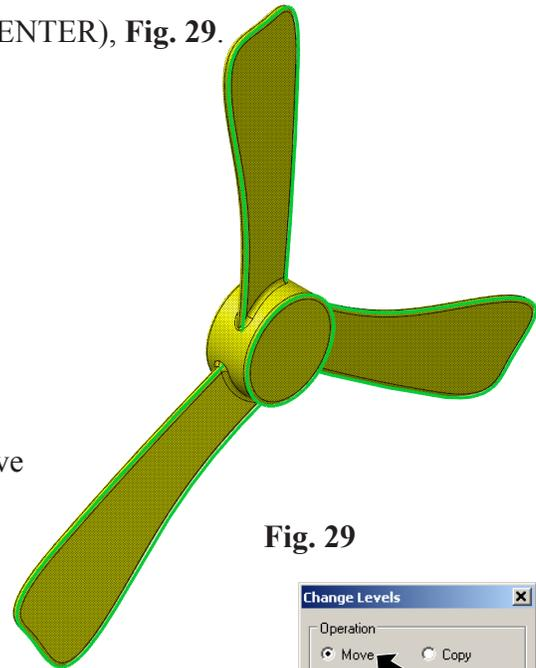

Fig. 29
Step 2. Click **solid** and click End Selection  (ENTER), Fig. 29.